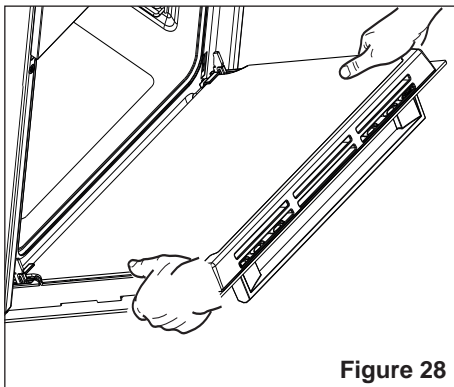

Figure 28
- Hold the door as shown in fig. 28.